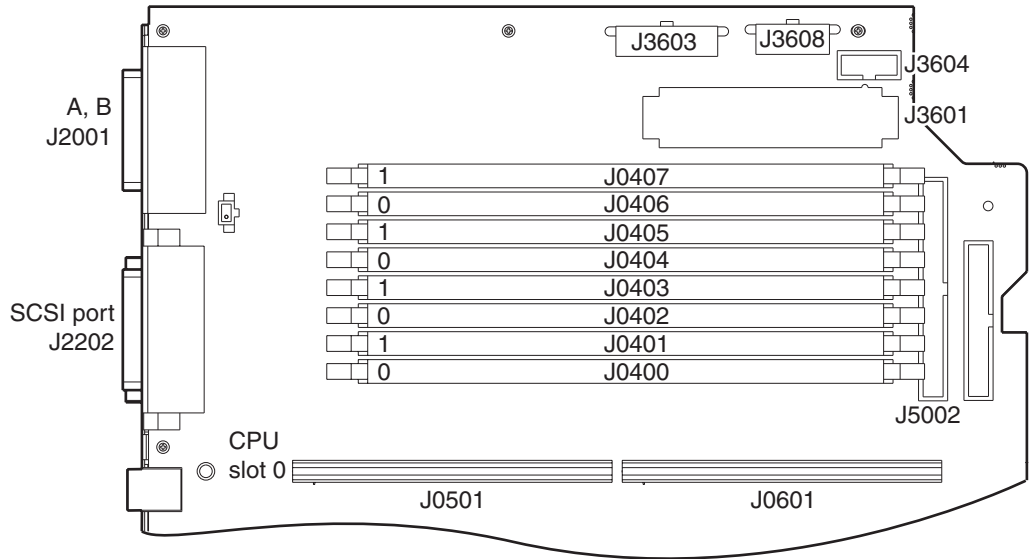

FIGURE 8-5 Memory Banks
6. Continue to fit DIMMs until one or both banks are full (FIGURE 8-5).